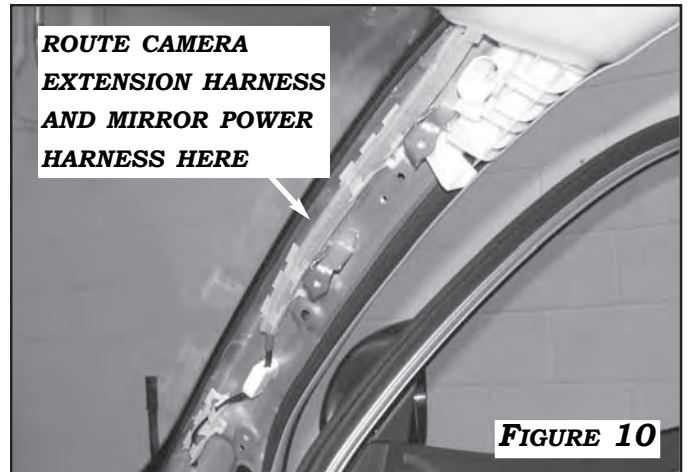

FIGURE 10
1. ROUTE CAMERA EXTENSION HARNESS AND MIRROR POWER HARNESS (RED, BLACK AND WHITE WIRES) ABOVE HEADLINER TO PASSENGER-SIDE A-PILLAR. ROUTE HARNESSES DOWN THE A-PILLAR USING THE FACTORY RETAINING CLIPS WHENEVER POSSIBLE. IF THE VEHICLE HAS SIDE CURTAIN AIRBAGS, BE SURE TO SECURE THE HARNESS SO THAT IT DOES NOT INTERFERE WITH AIRBAG DEPLOYMENT. ROUTE THE HARNESSES FROM THE A-PILLAR TO THE KICKPANEL. FIGURE 10